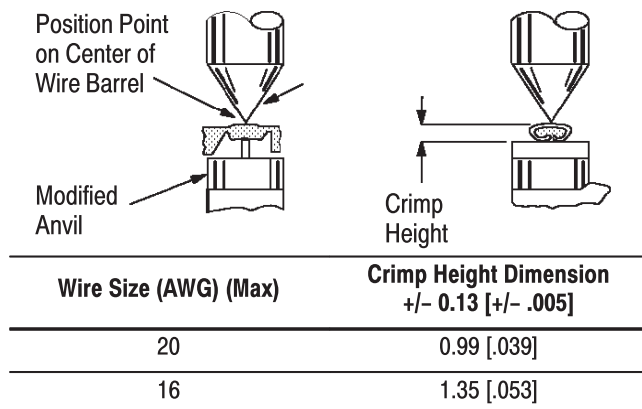

Figure 5
This inspection requires the use of a micrometer with a modified anvil as shown in Figure 5.
3. Using a Crimp Height Comparator, measure the wire barrel crimp as shown in Figure 5. If the crimp height conforms to that shown, the die assembly is considered dimensionally correct. If not, refer to Section 5 for information about replacements.